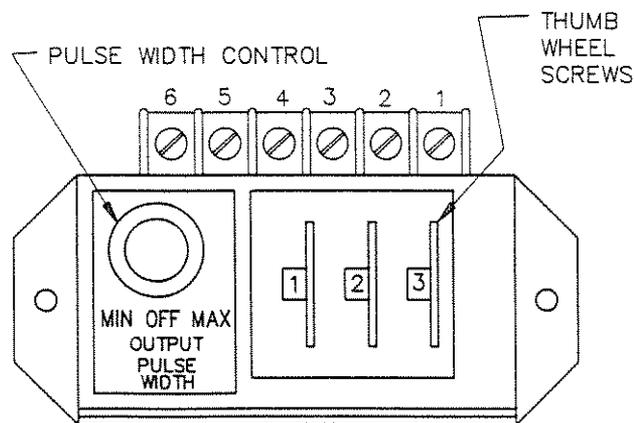

Figure 5-7
303-341 Series flow transmitters are equipped with a sampler/activator. See Figure 5-7. The sampler/activator provides a momentary contact closure (SPST, n.o. 200 mA max @ 24 Vdc) for operating a sampler at pre-set intervals. (See Figure 4-14 for customer wiring of the SPST contact.) This contact closure duration is adjustable from 60m sec to 2 sec. The sampler/activator consists of a pulse width
- D. Set the resulting number from Step C on the thumbwheel switch. See Figure 5-7. If that number is greater than 999, it will be necessary to make an adjustment on the P.C. board on the back of the sampler/activator unit. See Figure 5-8. For sample counts below 999, the jumper on the P.C. board will be in the X1 (top) position. For counts over 999, move the jumper to the X10 (bottom) position, divide the number obtained in Step C by 10, and set it on the thumbwheel switch. The count range will now be from 10 to 9990.